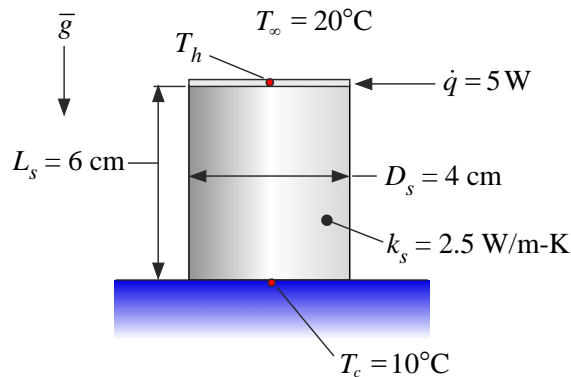

Figure P6.2-9: Thermal conductivity measurement device.
6.2-9 Figure P6.2-9 illustrates a device that is used to measure the thermal conductivity of a sample of material.